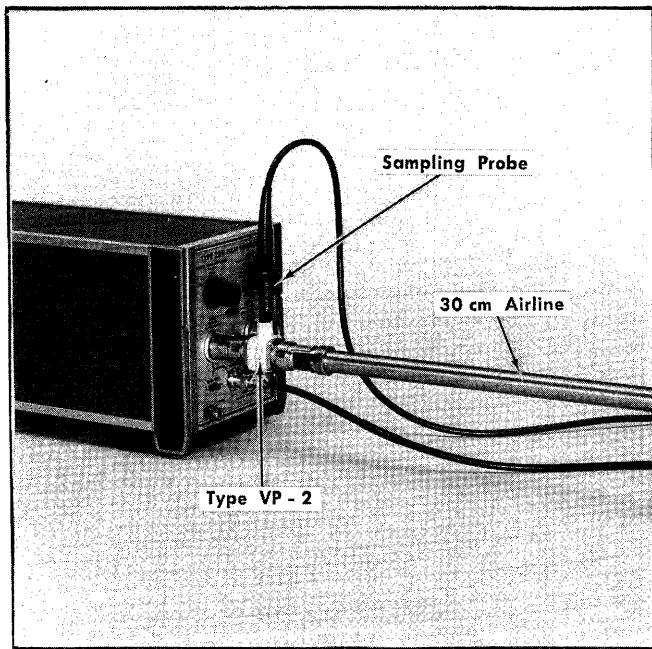
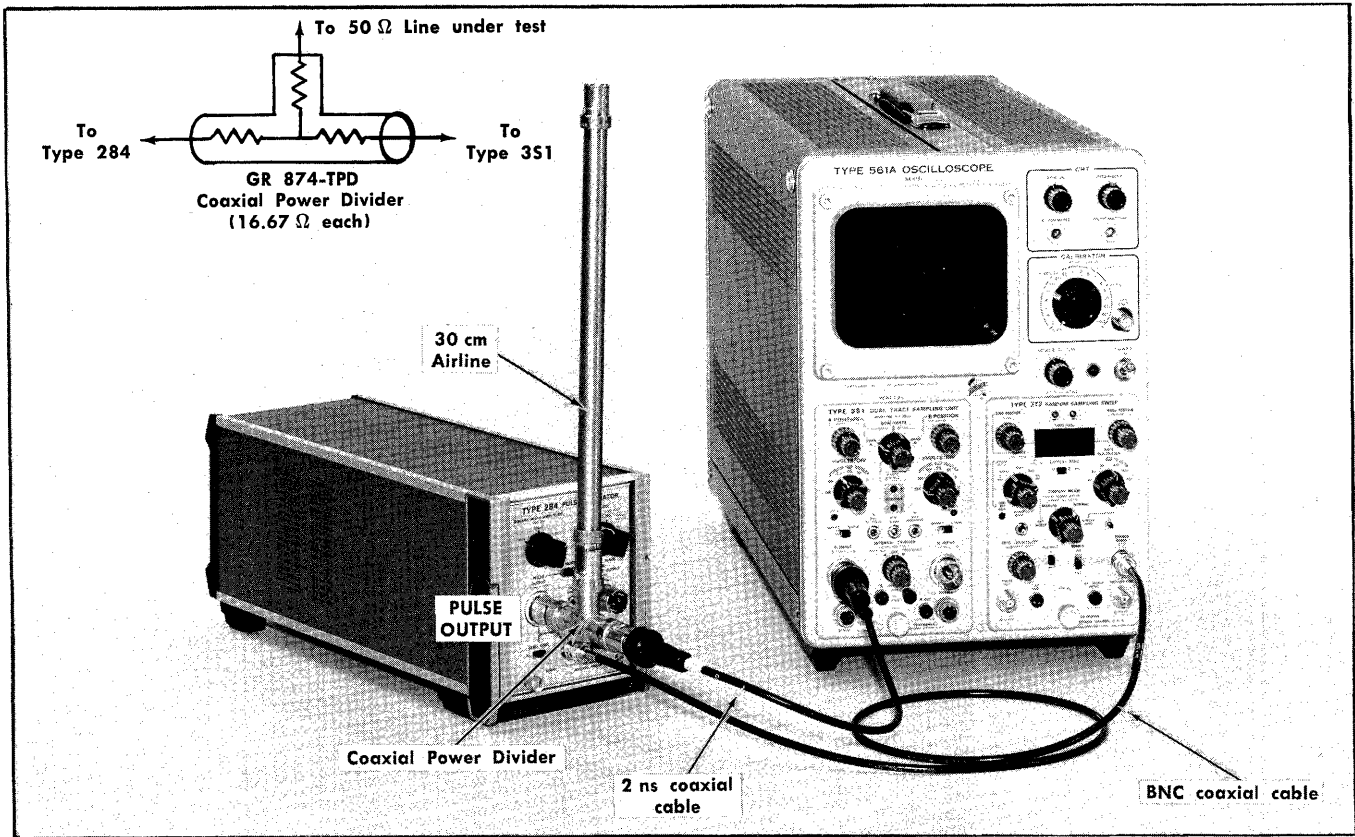

Fig. 2-26. TDR setup for P6038 Sampling Probe.
Fig. 2-29. TDR setup for 50  $\Omega$  Input Sampling oscilloscope.
**Using a Sampling Probe Unit.** Fig. 2-26 shows the Type 284 pulse output signal applied through a Type VP-2 voltage pickoff unit. The cable under test can be attached to the end of the 50 Ω reference 30 cm airline, or connected directly to the VP-2. As an initial setup example, the 30 cm airline is used and left unterminated.
**Using a 50 Ω Power Divider.** Calibrating a 50 Ω power divider TDR system is different than the Probe system described above. The fully 50 Ω sampling system requires an attenuator coupling device, such as the GR 874-TPD shown in Fig. 2-29. The signal losses in the power divider must be considered when adjusting the oscilloscope vertical deflection sensitivity to obtain a calibrated  $\rho/\text{div}$  deflection factor. The setup for this calibration is shown in Fig. 2-29. The power divider matches the Type 284 50 Ω output to both the oscilloscope 50 Ω input and the 50 Ω transmission line under test. The loss between any two of the power divider connectors is 6 dB (half voltage) when each connector has a 50 Ω circuit connected.
variable control is adjusted to display a transmission line length of one meter in ten divisions. The initial system includes a 30 cm airline on the test side of either the VP-2 or the Power Divider (as shown in Fig. 2-26 or Fig. 2-29). The 30 cm airline gives a "clean" time reference for the positioning of the oscilloscope display at the CRT graticule left edge.